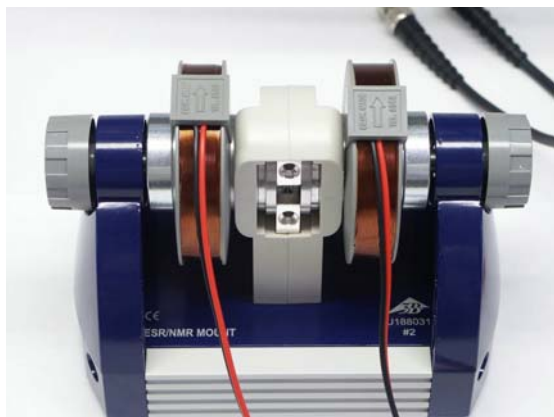

Fig. 2 Basic unit complete with coils
- Slide the coils onto the assembly cylinder and insert them into the basic unit as shown in Fig. 2.